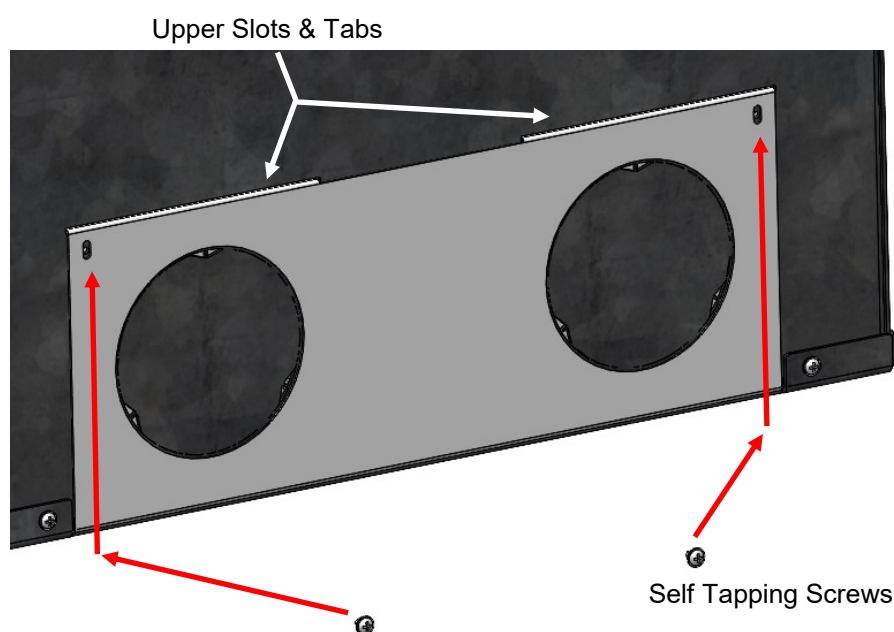

Fig. 3. Fixing The Direct Air Connector
Step 3 : Fix the connector in place with the 2x provided self tapping screws, see Fig. 3.